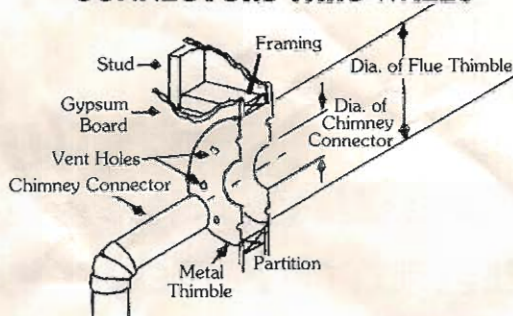

**FIGURE 3
- Adjust the magnetic damper as follows: The damper lid should snap shut when it comes within 1/4" of the damper box. When the lid pops open, it should open approximately 1/2" above the damper box. To make any necessary adjustments, loosen the two screws holding the magnet to the damper box. (See Fig. 3) On the Model 37 there are two access holes in the combustion flue shield for this purpose. Sliding the magnet downward will decrease the pull of the magnet on the damper lid, and sliding the magnet upward will increase the pull. After making any adjustments, be certain the magnet is not in direct contact with the damper lid.